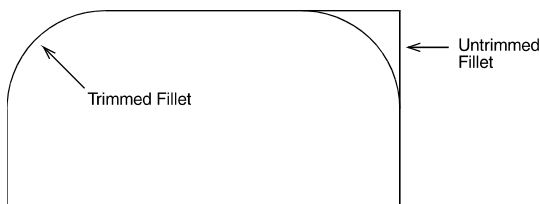

Figure 12.1: Lines trimmed to fillet (Clip on) and lines left untrimmed (Clip off)
4. Toggle Clip on or off. To trim the ends of the selected lines to the ends of the arc, toggle Clip on. To draw the arc but leave the ends of the lines unaffected, toggle Clip off (see Figure 12.1).